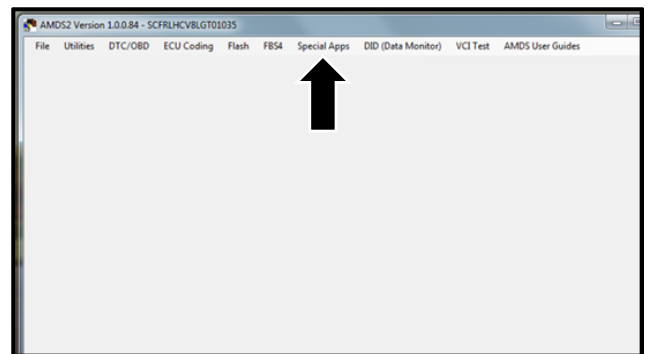

Figure 8
14. After you have flashed the ECM do a check to make sure the injector codes are shown. Select "Special Apps" (refer to Figure 8).